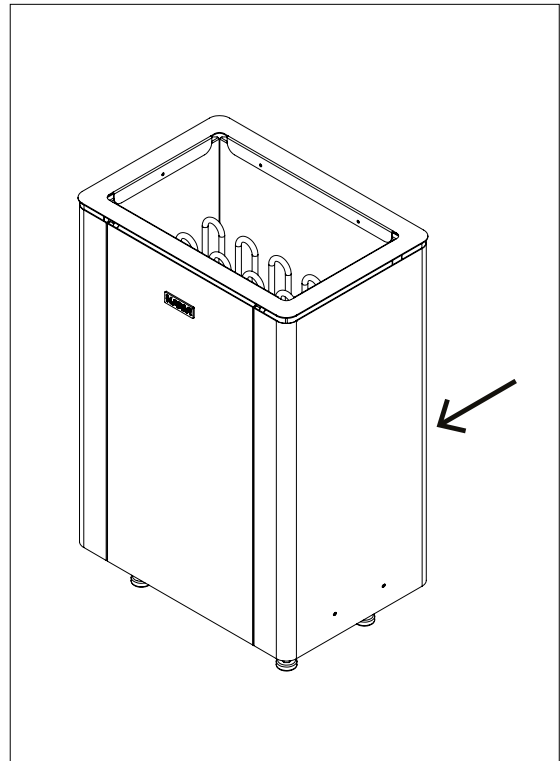

Figure 6.3-3. Location of the main switch
10. Ensure that the main switch (I/O) of the heater is in the O position. (Figure 6.3-3)